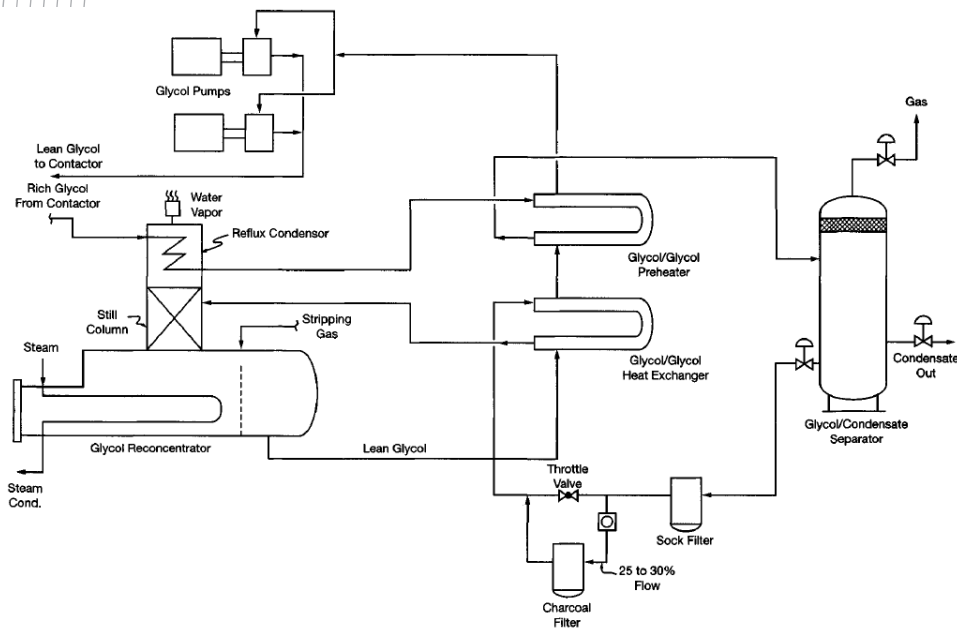

Figure 2-17. Typical glycol reconcentrator.
- The wet glycol (Rich glycol) leaves from the base of the tower and flows to the reconcentrator (reboiler) by way of heat exchangers, a gas separator, and filters, as shown in Figure 2-17.